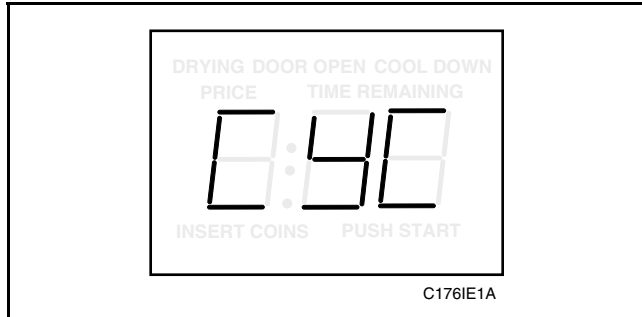

Figure 97
4. While pressing and holding the HIGH TEMP pad with one hand, press the LOW TEMP pad with the other hand. The VFD display will show the first Audit Option “CyC”, *Figure 97*.